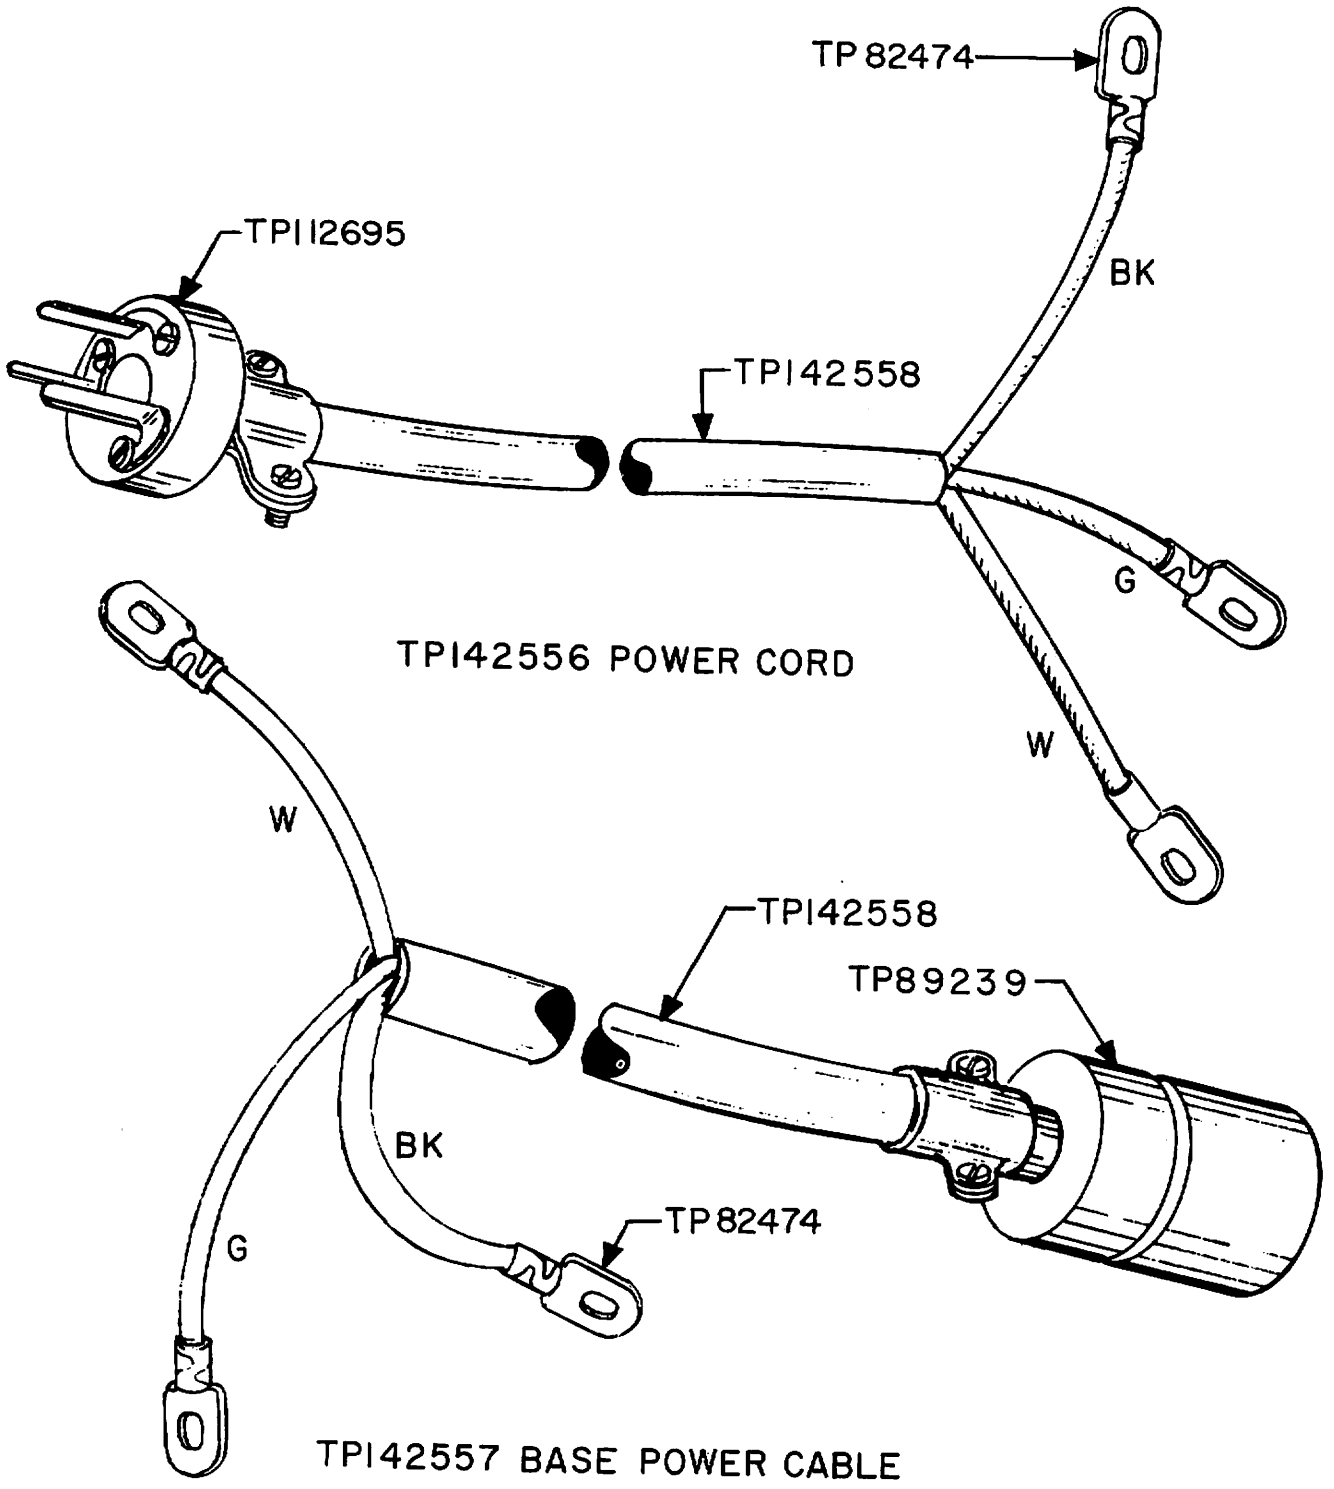

Figure 5 - Three-conductor Grounding Cord Assemblies
2.14 Three-conductor Grounding Cord Assemblies: The TP142556 and TP142557 three-conductor cord assemblies (see Figure 5) have replaced the older two-conductor cord assemblies in order to provide a suitable grounding arrangement for the paper winder. If desired, they may be installed as follows, either separately or as part of the TP136146 modification kit: